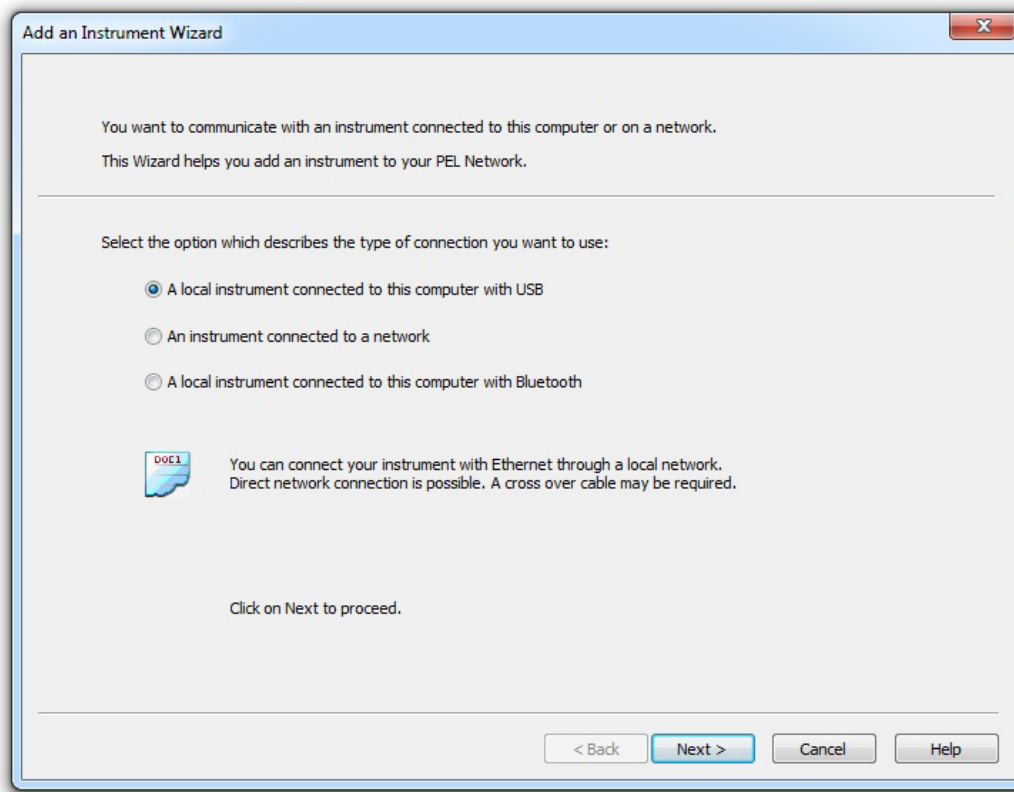

Figure 42
**NOTE:** The following dialog boxes in this section correspond to the connection type chosen in Figure 42.